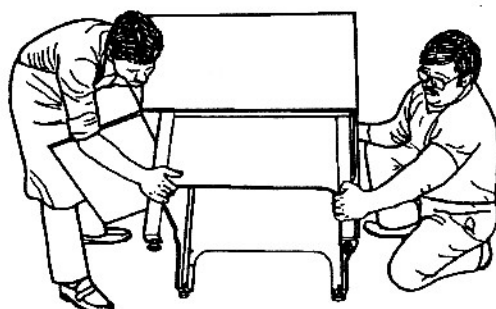

Fig. 23
34. Place the machine upright, as in Fig. 23.